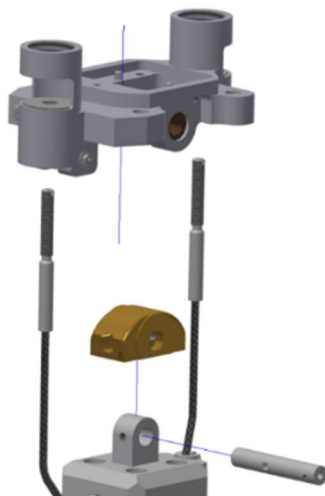

Figure 4-16. Remove OC pin (474-2340) from OC Flexion-Extension Cam (474-2327).
4.2.8 Remove OC pin (474-2340) from OC Flexion-Extension Cam (474-2327) (Figure 4-16). Head/neck mounting platform (474-2302-A) can be removed from neck assembly. The OC flexion-extension cam (474-2327) can also be removed from neck assembly.